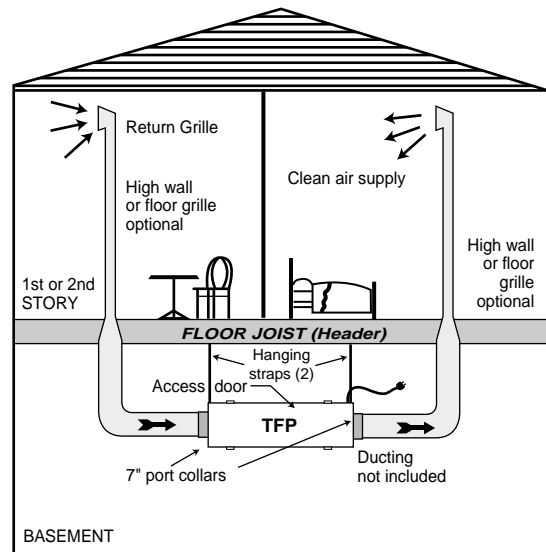

Figure 4
1. Install (2) 7" port collars (provided) on TFP cabinet with (8) 8/32" X 3/8" sheet metal screws provided (Fig.4).
2. Ducting will usually consist of one return with grille from one side of the home, and one supply with grille at the opposite end of the home (Fig. 4).